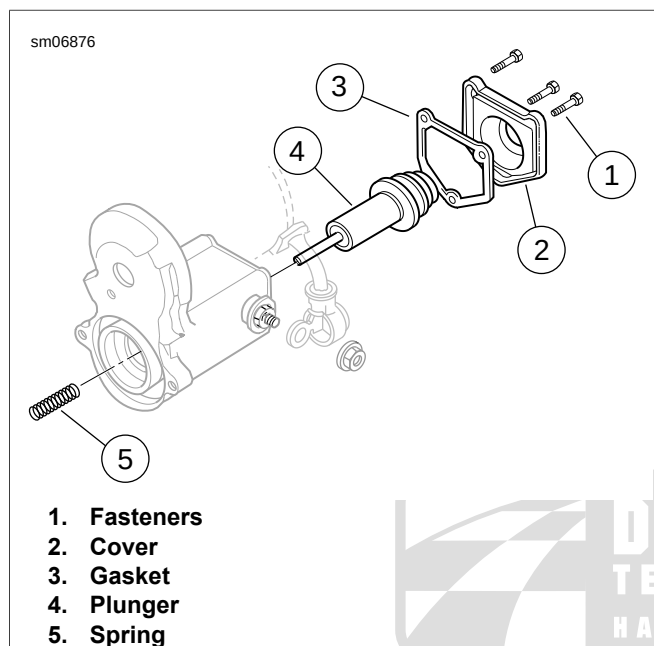

Figure 6-19. Solenoid Plunger
1. See Figure 6-19. Remove fasteners (1), cover (2) and gasket (3).
2. Remove the plunger (4) with spring (5).